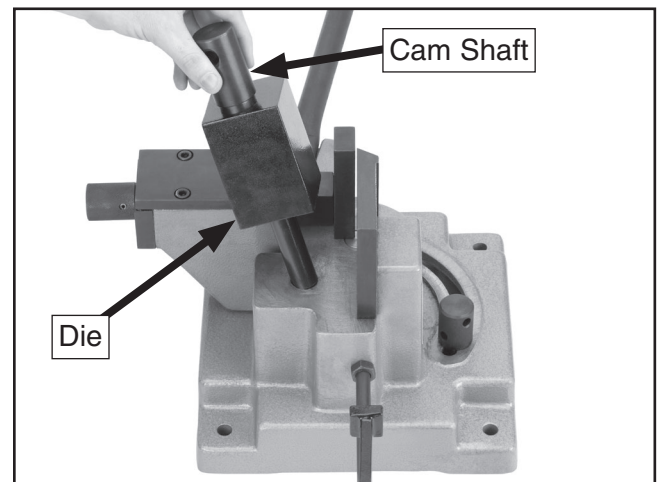

Figure 10. Lifting clamp cam shaft and die.
1. Lift the clamp cam shaft to release the clamp die. Rotate the clamp die as necessary to accommodate the thickness of your work-piece, then slide the clamp cam shaft back into the base (Figures 10 & 11).